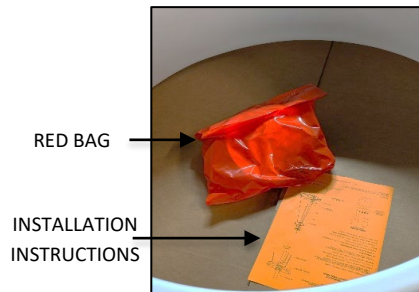

FIG. 3 RED BAG AND INSTALLATION
2. INSTALLATION INSTRUCTIONS (shown in FIG. 3) - Please completely read the install instructions before starting installation.
3. RED BAG (shown in FIG. 3) contains below following items